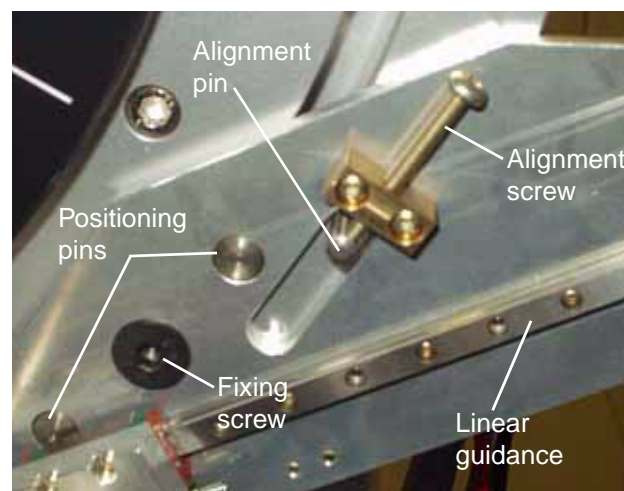

Figure 5.9 - Details of the primary beam stop—showing the extreme low position of the beam stop
8. Screw the alignment screw completely out (see Figure 5.9). Put the alignment pin into the goniometer ring and place the beam stop so the alignment screw hits the alignment pin.
Figure 5.9 shows the actuator in the extreme high position of the alignment screw.